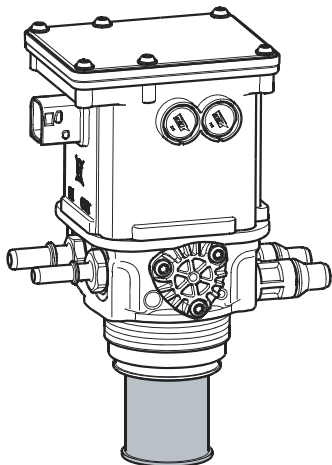

Figure 16 Install New Filter
3. Install the new filter. See Figure 16.